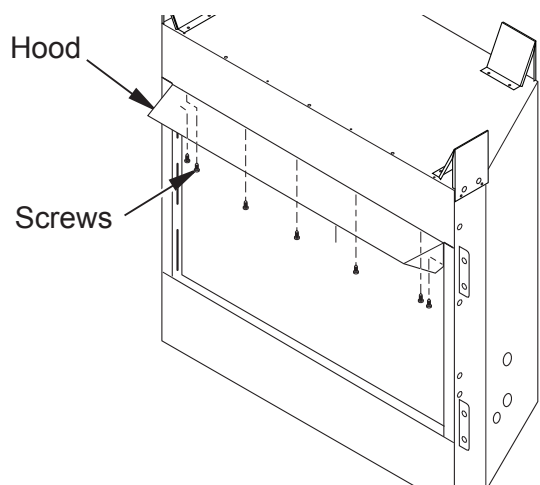

Figure 20 - Screw and Hood Placement (Model May Vary From Illustration)
1. Attach hood to firebox using screws provided (see Figure 20).